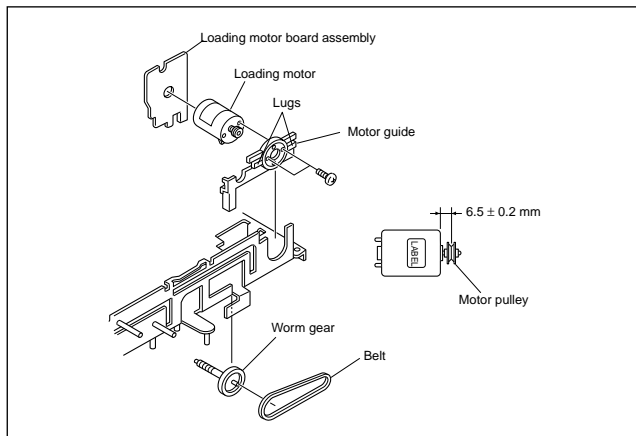

Fig. 2-2-7a
- (1) Remove the belt wound around the worm gear.
- (2) Open the two lugs of the motor guide and remove the loading motor, loading motor board assembly and motor guide altogether by pulling them up.
- (3) When replacing the loading motor board assembly, take care with the orientation of the loading motor. (Install so that the loading motor label faces upward.)
- (4) When the motor pulley has been replaced, choose the fitting dimension as indicated in Fig.2-2-7a.